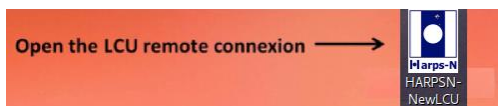

Figure 2 - WSOPER workstation desktop
- Click on the **HarpsNLCU icon** (Figure 2), or open a shell from any linux machine and type: